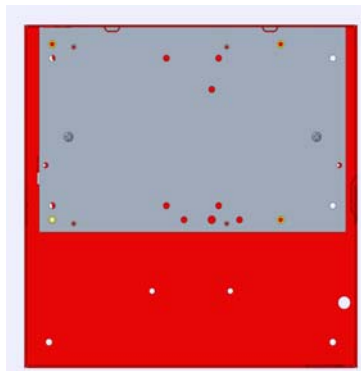

Figure 1 Remove the Two Mounting Plate Screws to Expose the Cabinet Mounting Holes
3. To remove the mounting plate, unscrew the two mounting plate screws as shown in Figure 1.